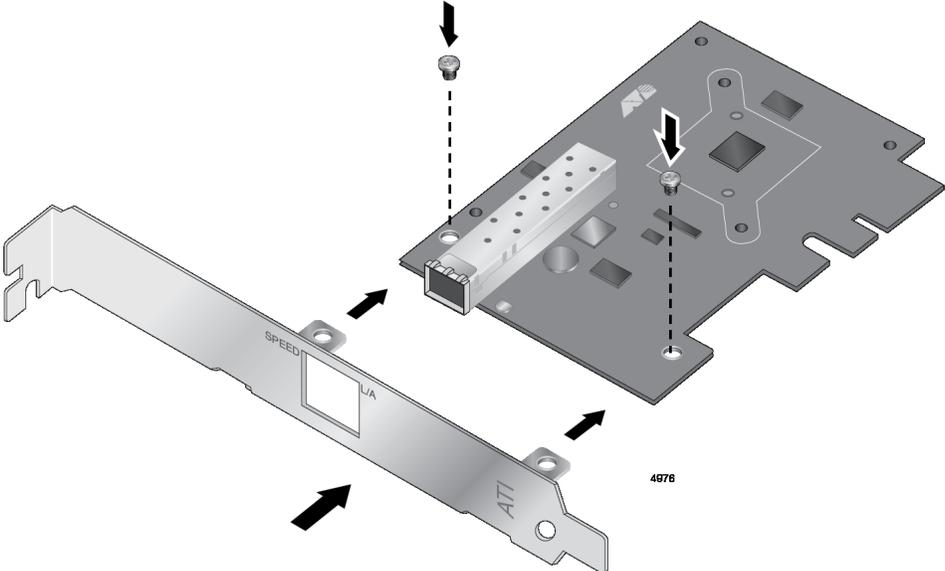

Figure 8. Fastening Screws onto Standard Bracket
2. Align the tabs of the standard bracket with the holes on the network adapter and fasten the screws onto the network adapter. See Figure 8 on page 33.